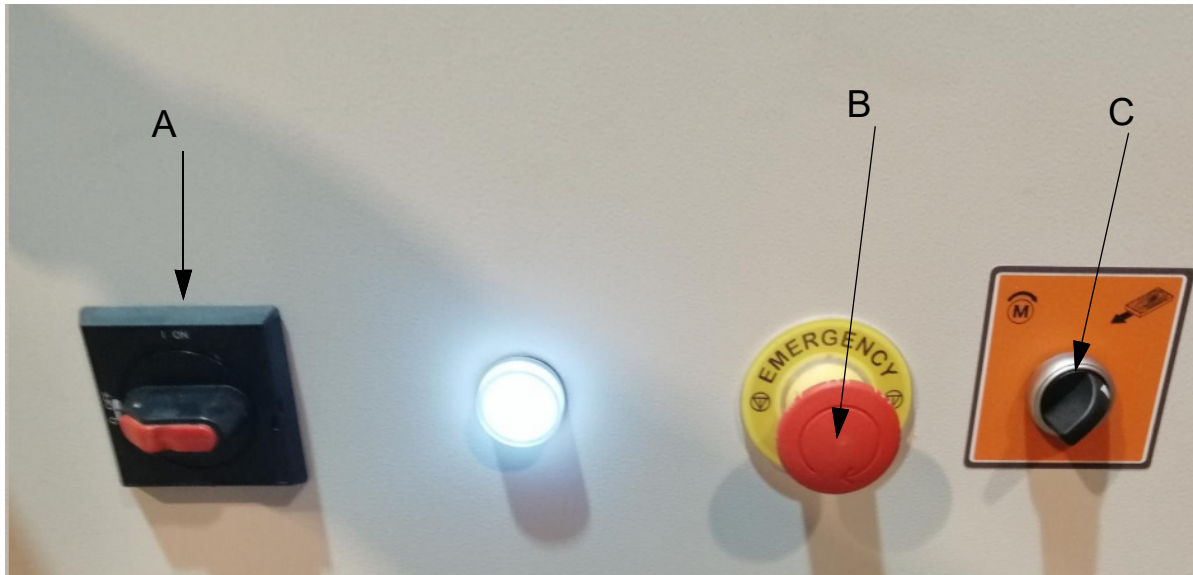

FIG. 5-9
See Figure 5-9 The electric box control panel includes: main switch (A), emergency stop button (B), reverse gear switch (C) .